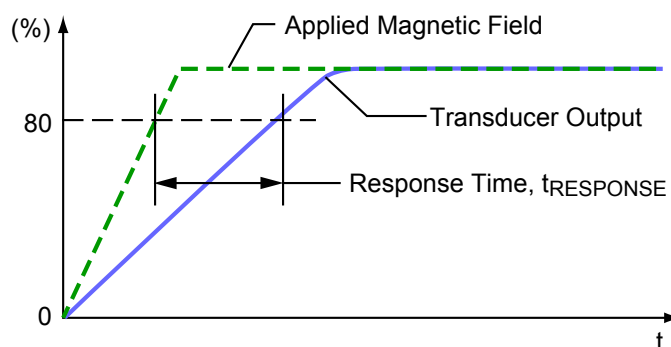

Figure 3: Response Time definition
**Response Time ( $t_{RESPONSE}$ ).** The time interval between a) when the applied magnetic field reaches 80% of its final value, and b) when the sensor reaches 80% of its output corresponding to the applied magnetic field (see Figure 3).